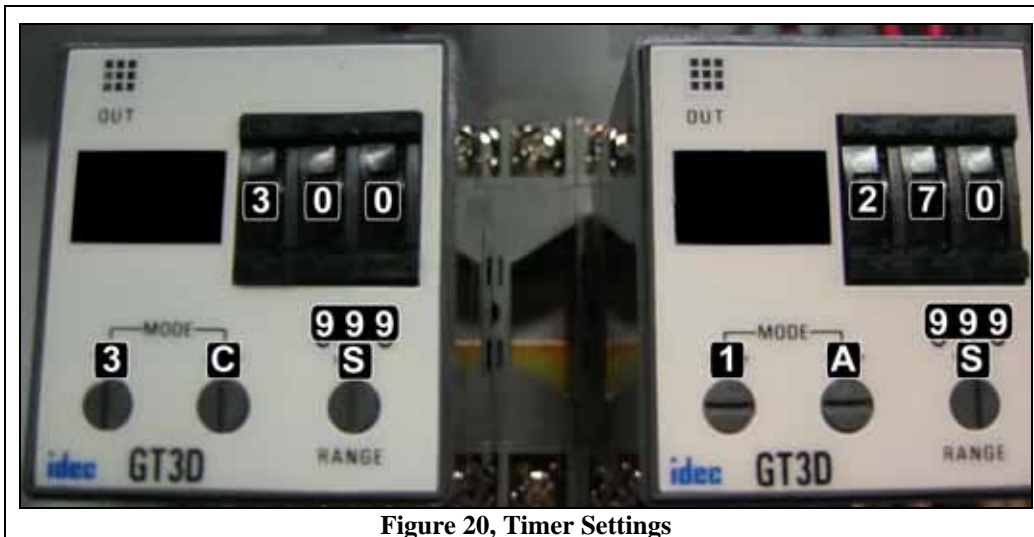

Figure 20, Timer Settings
- Step 2) Both Timers (see Figure 20) should have red digits showing on their displays, if not then the Start/Stop Button is bad and needs to be replaced.
- Step 4) The timers TR1 and TR2 must be configured to these settings only. Any other values will prevent the equipment from running. If different from Figure 20 use a small screwdriver to adjust the values.